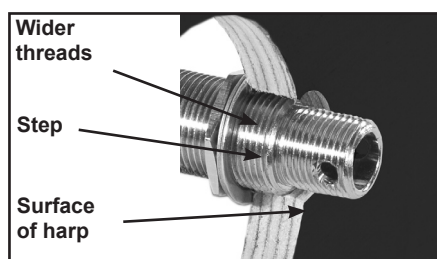

Figure 15b – Jack installation
6. Reach inside the harp and carefully push the end of the jack up through the hole you drilled in the back of the harp. Adjust the inner nut so the step to the wider threads sits about  $\frac{1}{16}$ " (1.5mm) below the outer surface of the harp body (*see figure 15b*).